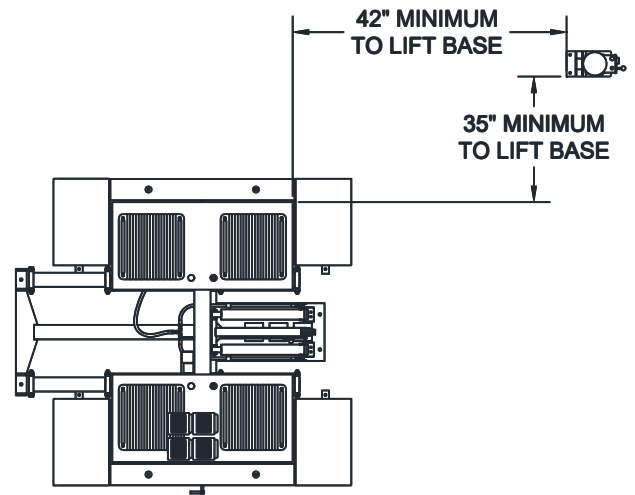

Fig. 5 Power Unit Location
6. Place Power Unit Stand as shown in Fig. 5 for surface mount or flush mount applications. Operator should be in a position to notice any misalignment of lifting pads or vehicle during operation. Challenger Lifts does not recommend placing the Power Unit in a different location or orientation and doing so would be the responsibility of the installer and/or end user.
24. For **Surface Mount only**, there are (8) 5/8" diameter holes in the ramp forms for use with 1/2" anchor bolts. Use the holes in the ramp forms as a template and drill holes. Insert anchor bolts into holes but do not tighten yet.
25. For **Surface Mount only with Cover Acc**, use the nine 20" hose covers and one corner cover to protect the hose in a desired path using Fig. 5. Drill Ø1/4" holes using the hose covers as a template and secure the covers to the floor with the provided 1/4" drive anchors.
27. For **Flush Mount only**, there are (8) 5/8" diameter holes in the front platforms and (2) 5/8" holes in the lock rod support bracket. Use the platforms as a template and drill holes and insert anchor bolts. Locate lock rod support bracket near lock rod handle and align with pivot block near center of lift base. Ensure bracket does not interfere with bottom of lift structure when lowered before drilling holes. Drill holes and insert anchor